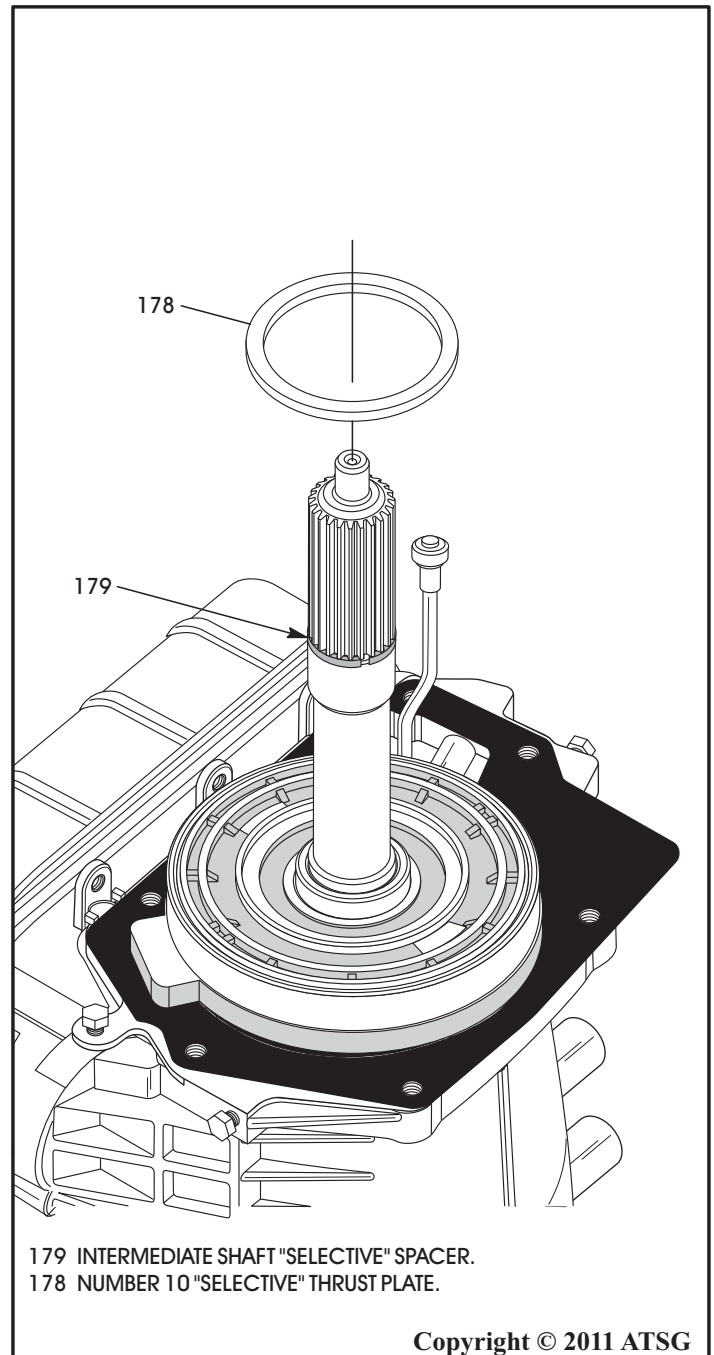

Figure 238
60. Install the selected number 10 thrust plate onto the overdrive piston, as shown in Figure 238.